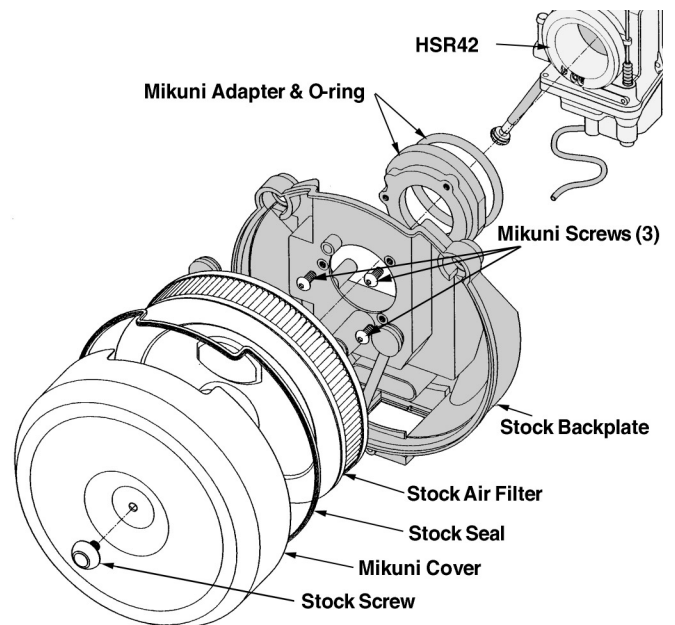

Figure 4
- B. Use a small amount of thread lock on each of the screws (Figure 4).